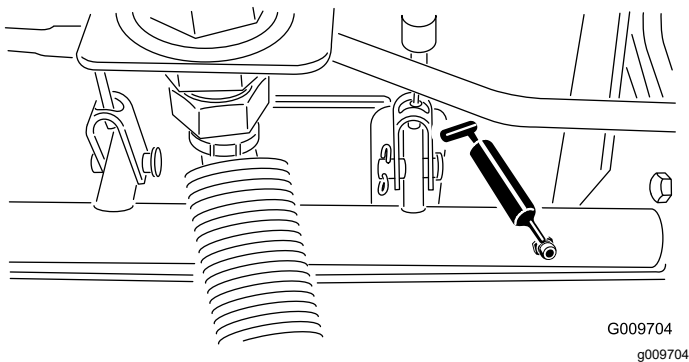

Figure 81
- Brake shaft pivot bearings (5) (Figure 81)